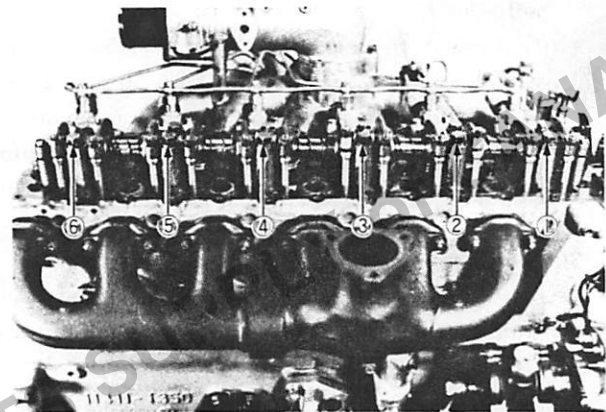

Fig. 3-2-44 Rocker arm tightening sequence
- (8) Make sure the top surface of cylinder head and the bottom of rocker support are free from dust, chips, and other foreign matter. Then set the rocker-arm assembly.
- (9) Make sure that the push rod interlocks with adjusting screw. Then screw in all six rocker support bolts two or three threads by hand to fix their position. Then, tighten them in No. 3, 4, 2, 5, 1 and 6 sequence (see Fig. 3-2-44).